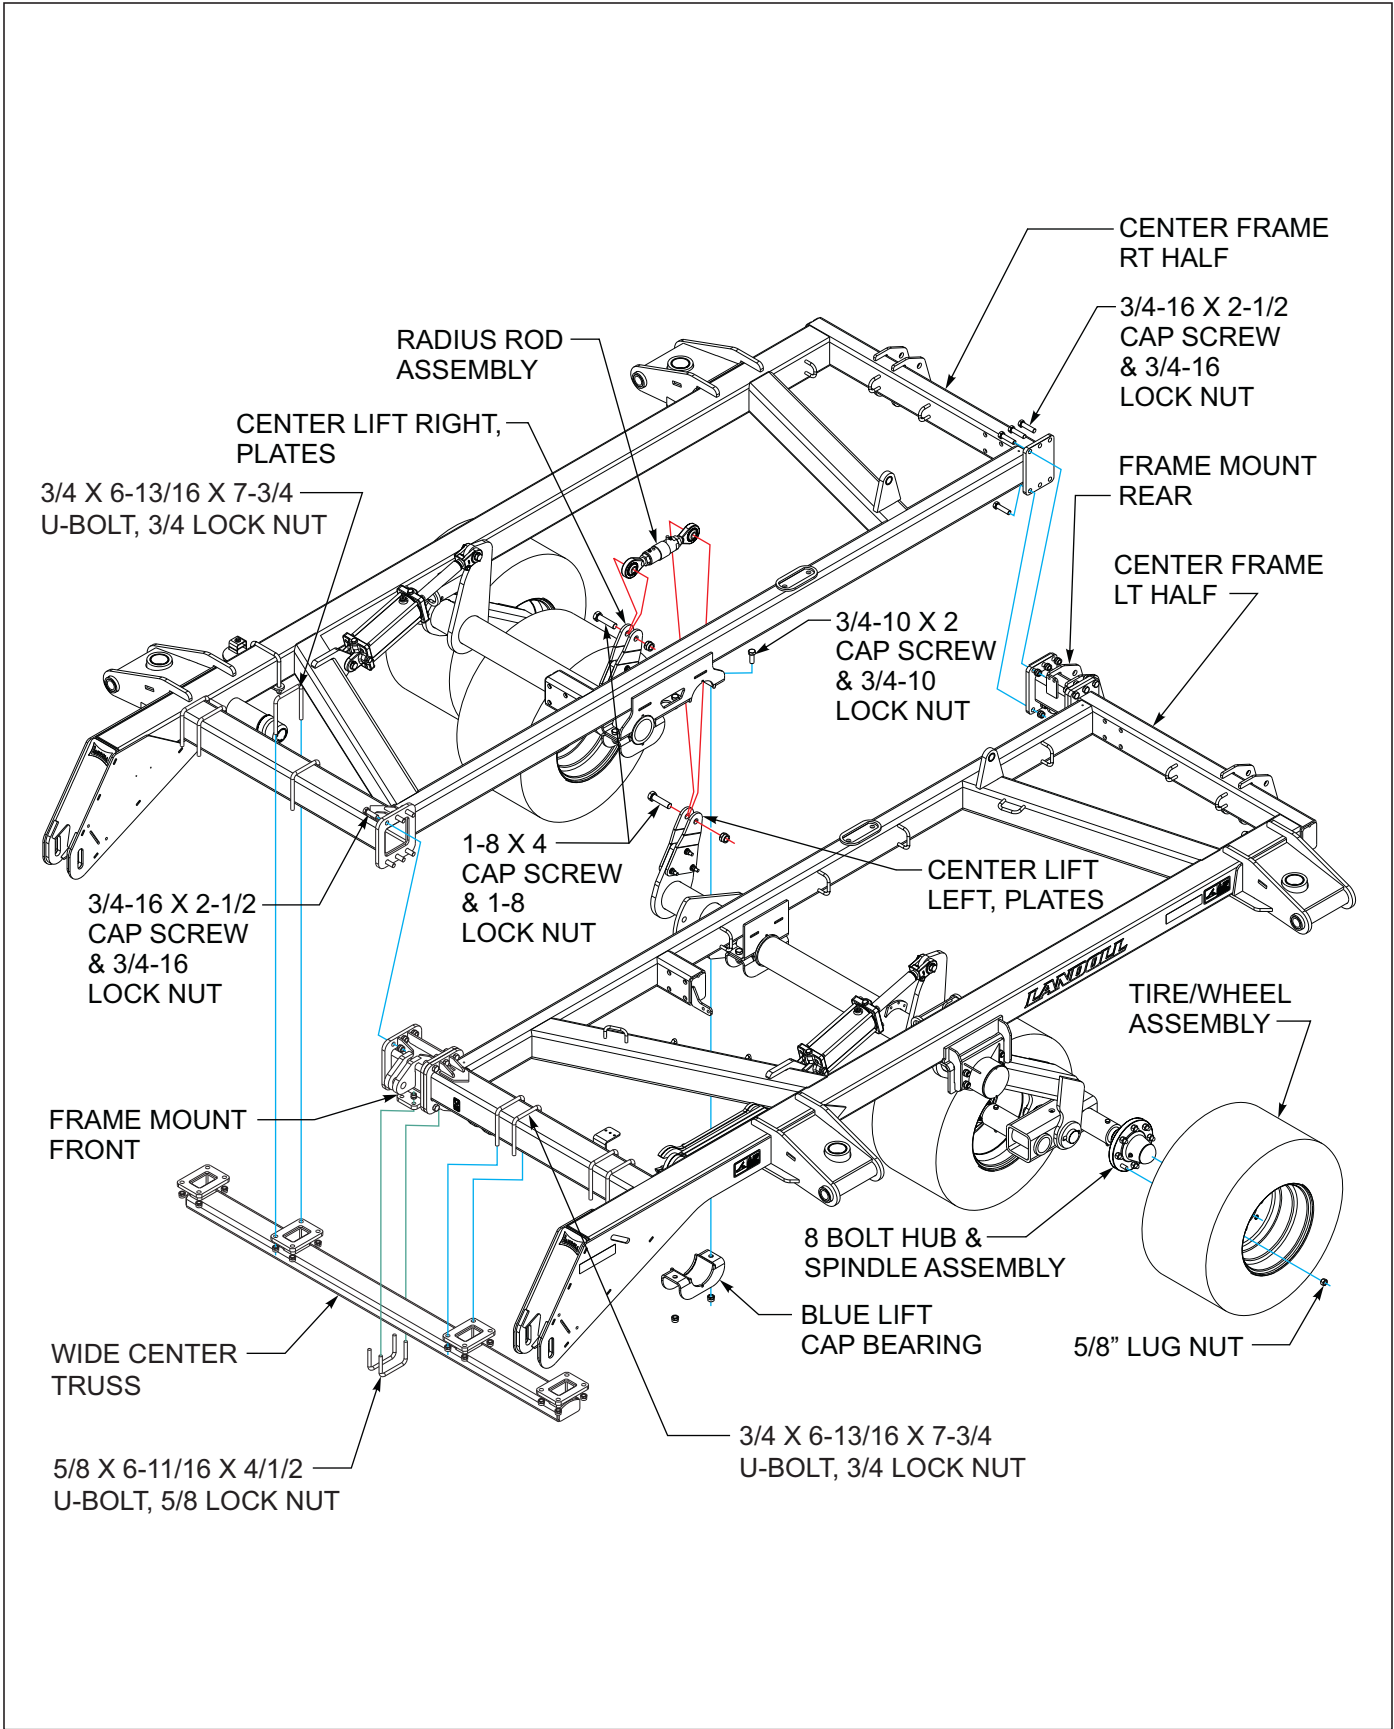
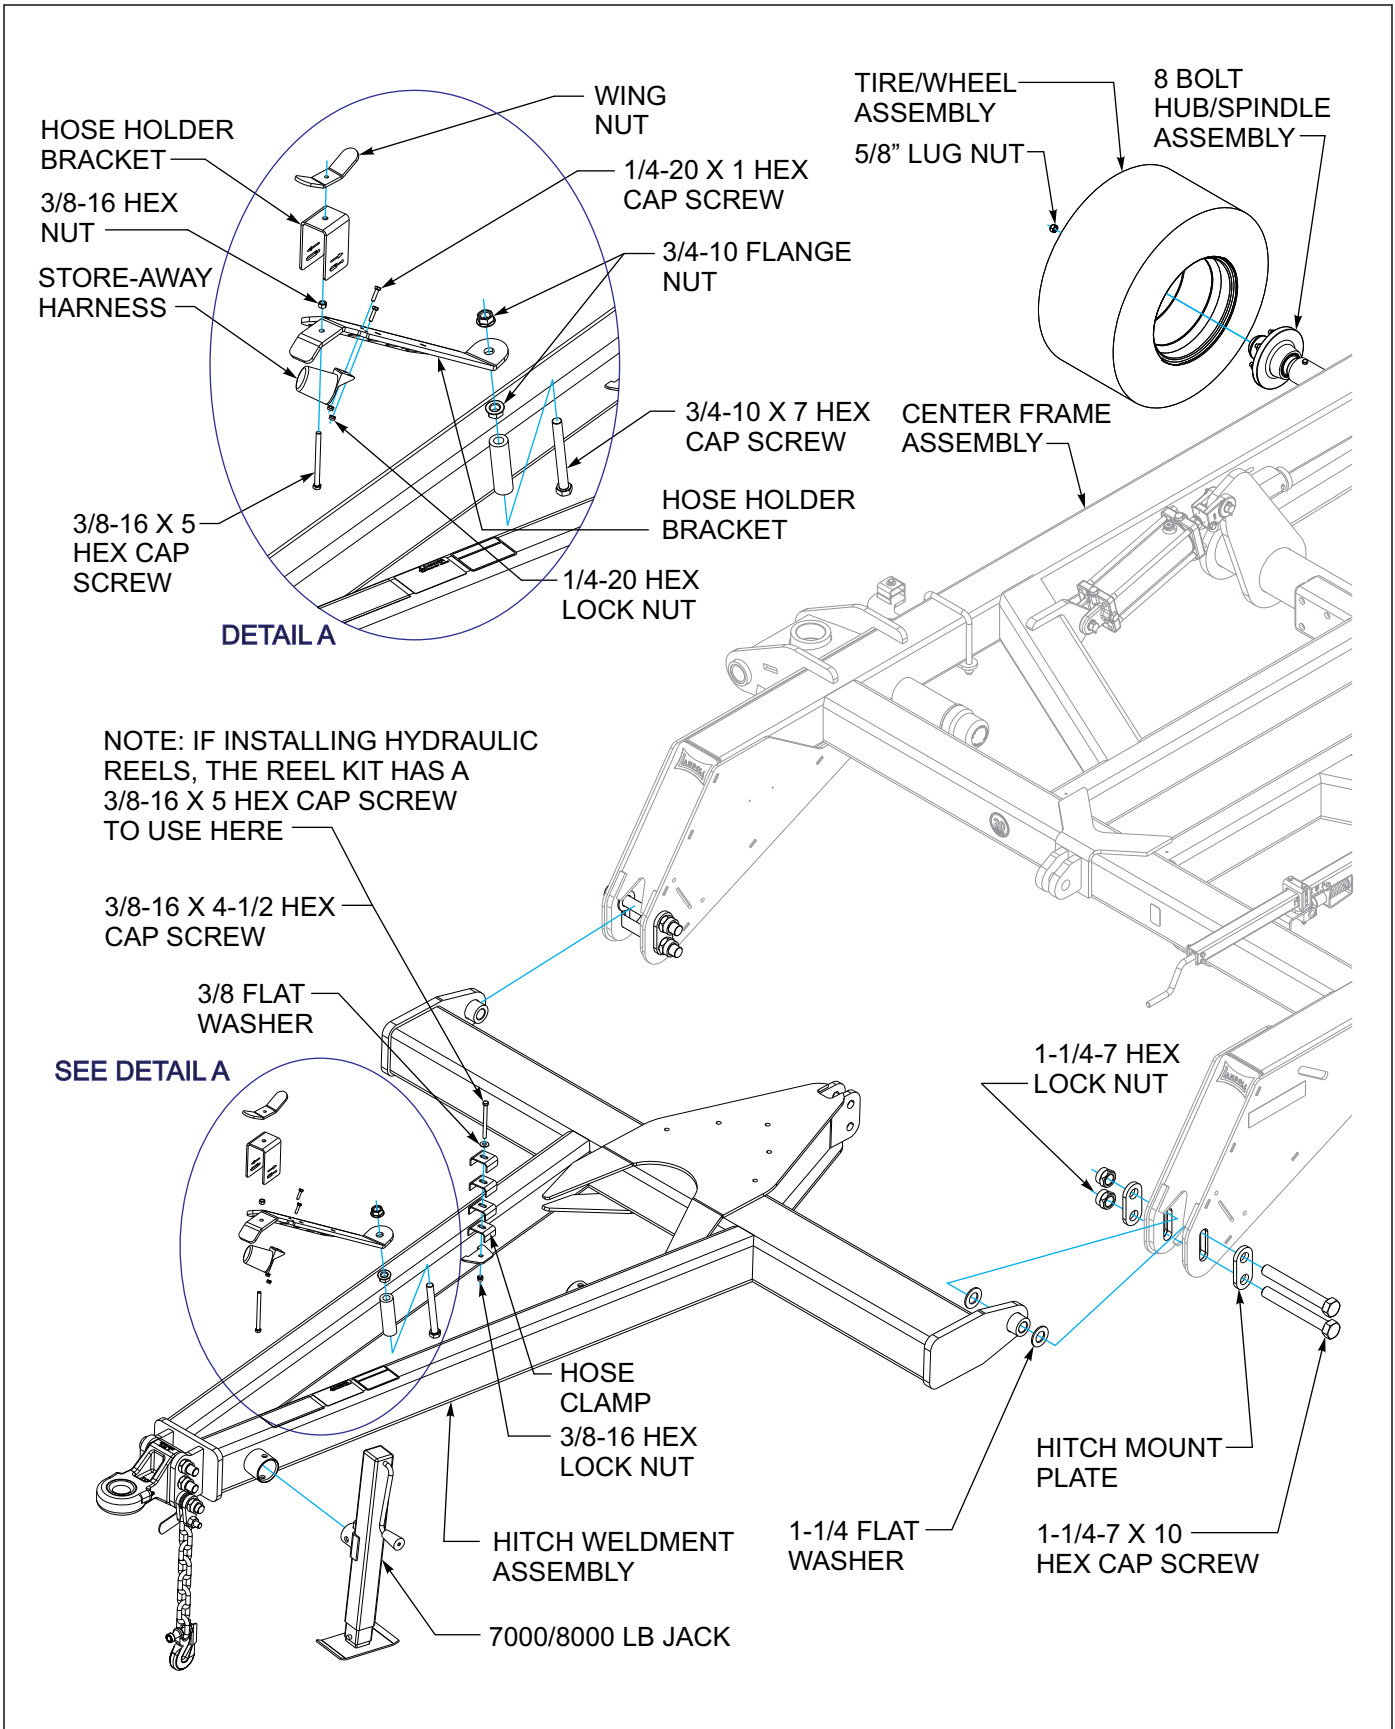

Figure 3-2: 7530-32/35 Center Frame Assembly
Figure 3-3: 7530-23' - 35' Frame and Hitch Assembly Installation
The hitch assembly is the same for the center or wide center frame (See Figure 3-3.) for hitch assembly and (See Figure 3-2.) for 7530-32'/35' center frame assembly.
- Place the center frame assembly on stands approximately 36" high, (See Figure 3-2.) for 7530-32'/35' center frame assembly and (See Figure 3-3.) for 7530-23' - 29' center frame. The assembly area should be a large level area of sufficient size to accommodate the disc when fully assembled.
- Attach the 7530-32'/35' center frame rt half to the front and rear mounts that are mounted to the center frame lt half (See Figure 3-2.) with 3/4-16 x 2-1/2 cap screws and 3/4-16 lock nuts.
- Attach the hitch weldment, all models (See Figure 3-3.), to the front of the center frame using 1-1/4-7 x 10 cap screws, 1-1/4 flat washers, hitch mount plates and 1-1/4-7 lock nuts. The 1-1/4 flat washers are provided.